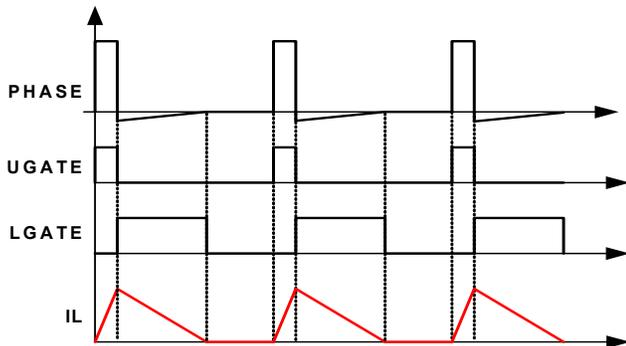

FIGURE 10. DIODE EMULATION
The ISL62773A can operate in diode emulation (DE) mode to improve light-load efficiency. In DE mode, the low-side MOSFET conducts when the current is flowing from source to drain and does not allow reverse current, thus emulating a diode. As Figure 10 shows, when LGATE is on, the low-side MOSFET carries current, creating negative voltage on the phase node due to the voltage drop across the on-resistance. The ISL62773A monitors the current by monitoring the phase node voltage. It turns off LGATE when the phase node voltage reaches zero to prevent the inductor current from reversing the direction and creating unnecessary power loss.
If the load current is light enough, as Figure 10 shows, the inductor current reaches and stays at zero before the next phase node pulse, and the regulator is in discontinuous conduction mode (DCM). If the load current is heavy enough, the inductor